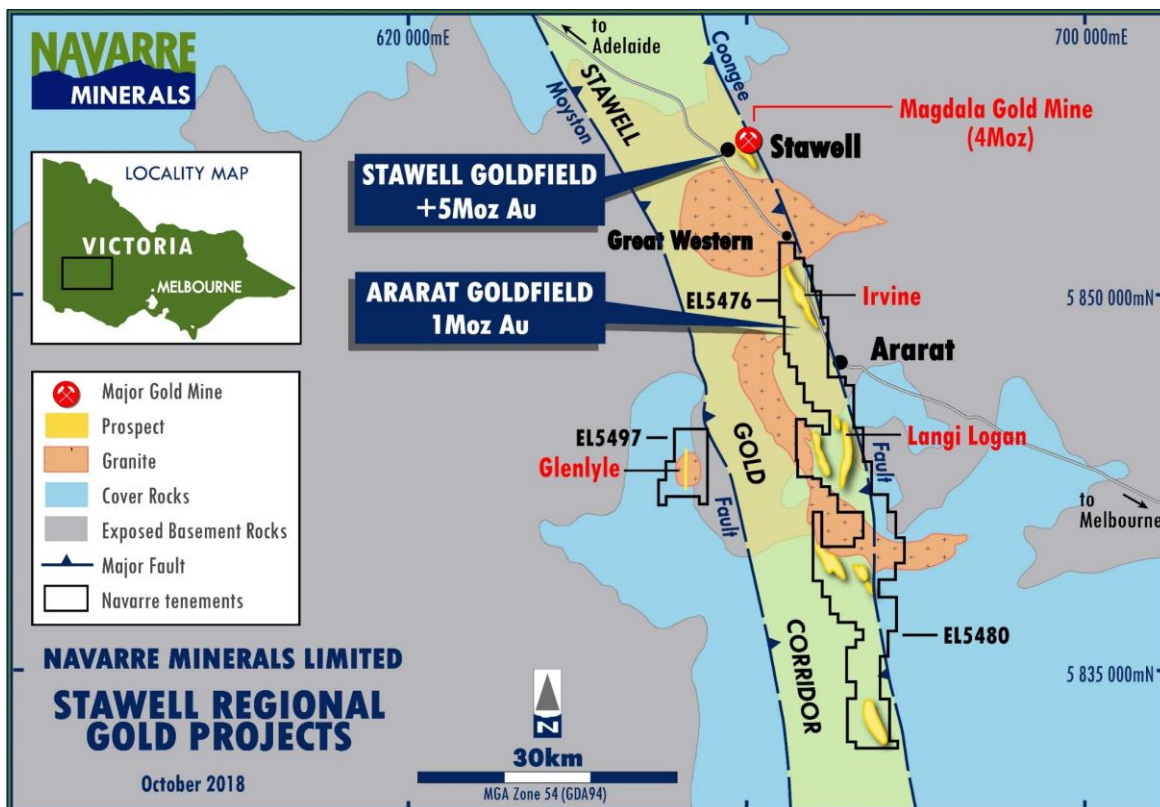

Figure 1: Stawell Gold Corridor properties location map
Navarre Minerals Limited (ASX: NML) (Navarre or the Company) is pleased to announce significant gold intersections from its recently completed reverse circulation (RC) drilling at the Adventure Lodge prospect, within its 100%-owned flagship Irvine Gold Project in western Victoria (Figures 1 & 2).